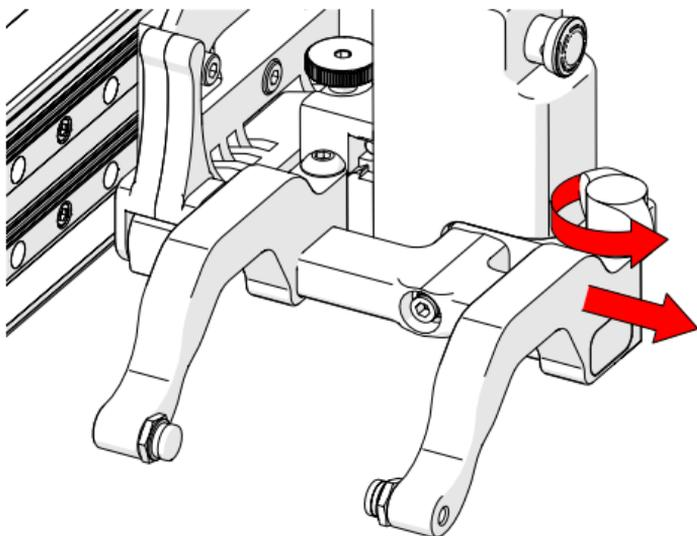

Fig. 115 - Remove outer arm
3. Loosen the probe holder arm adjustment knob and remove the outer probe holder arm (Fig. 115).